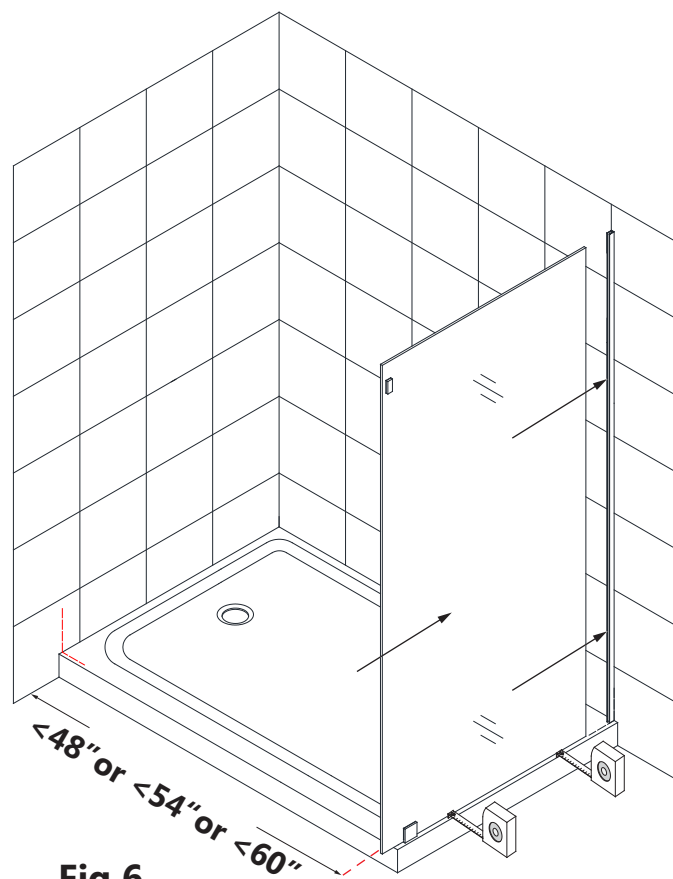

Fig 6
6. Place the **Return Panel Glass (#22)** onto the threshold. Slide the **Return Panel Glass (#22)** into the **U-Channel (#01)** and level it vertically (plumb). Make sure the **Return Panel Glass (#22)** is aligned with the threshold. **(Fig 6)**